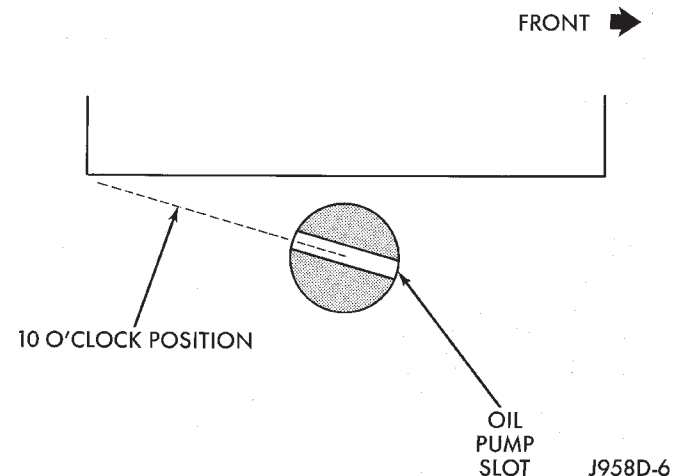
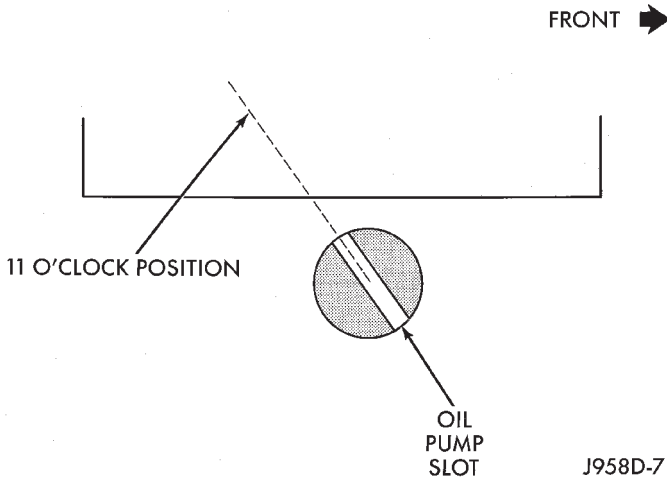

Fig. 28 Slot At 10 O'clock Position—2.5L Engine
Fig. 29 Slot At 11 O'clock Position—4.0L Engine
be slightly before (counterclockwise of) 10 o'clock position (Fig. 28).
(15) **4.0L 6-Cylinder Engine:** Observe slot in oil pump gear through hole on side of engine. It should be slightly before (counterclockwise of) 11 o'clock position (Fig. 29).
(2) Check position of slot on oil pump gear. On the 2.5L engine, it should be just slightly before (counterclockwise of) 10 o'clock position (Fig. 28). On the 4.0L engine, it should be just slightly before (counterclockwise of) 11 o'clock position (Fig. 29). If not, place a flat blade screwdriver into oil pump gear and rotate it into proper position.